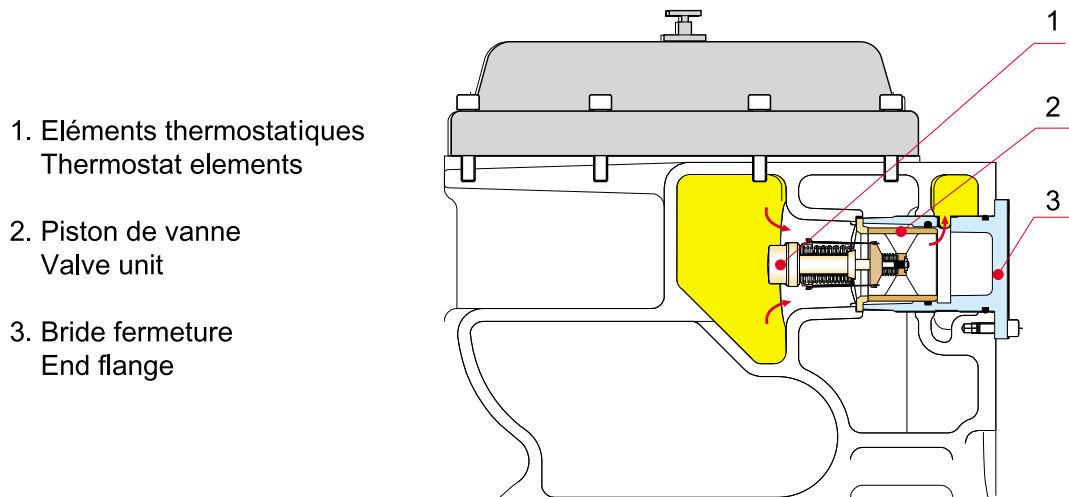

Fig. 18-7
Fig. 18-7 illustrates the valve in closed position (left). When the temperature exceeds the set value, the contents in the elements (1) expand and force the valve (2) towards its seat, thus allowing part of the oil to be by-passed to the cooler.